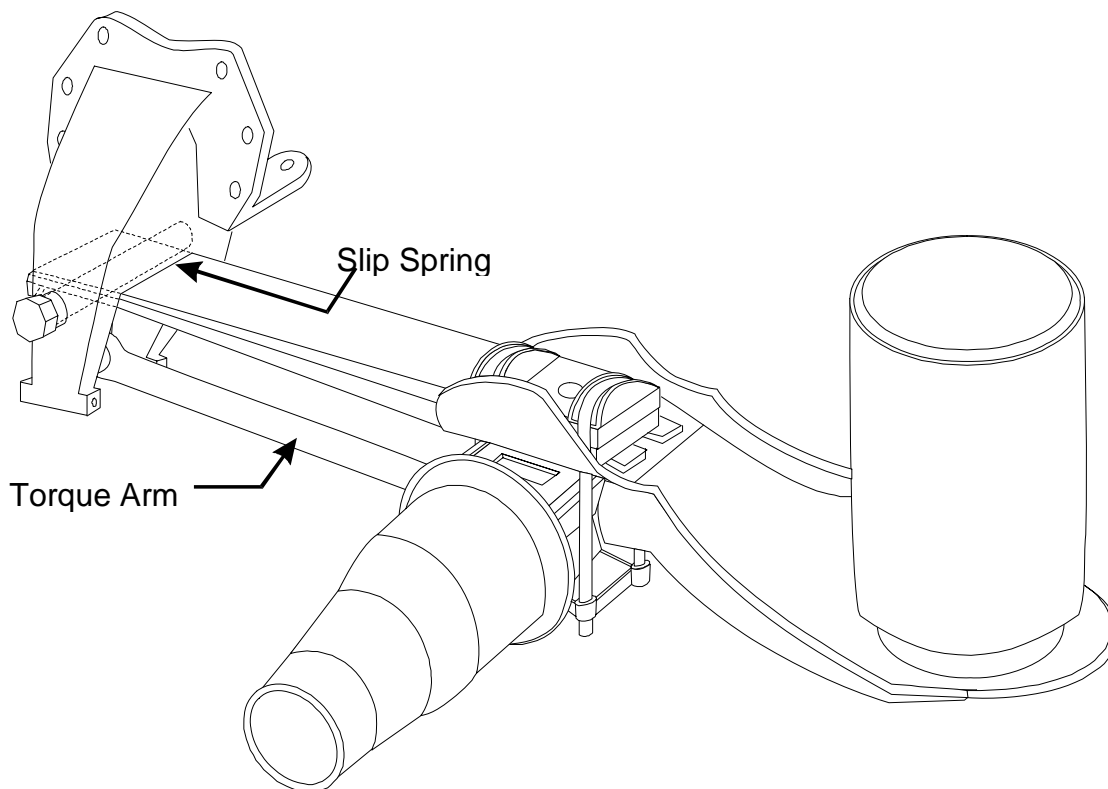

Figure 136-E: Typical slip spring and torque arm air suspension
**PROBLEM:** The air sensors are designed to sense air pressure changes in truck or trailer air suspensions. When the suspension is regulated by the special Vulcan height control valve, the air pressure corresponds very closely with vehicle weight. There are some truck and trailer designs where the amount of air pressure may not correspond as well with weight. These suspensions are the "**slip spring and torque arm type suspension**", see Figure 136-E.